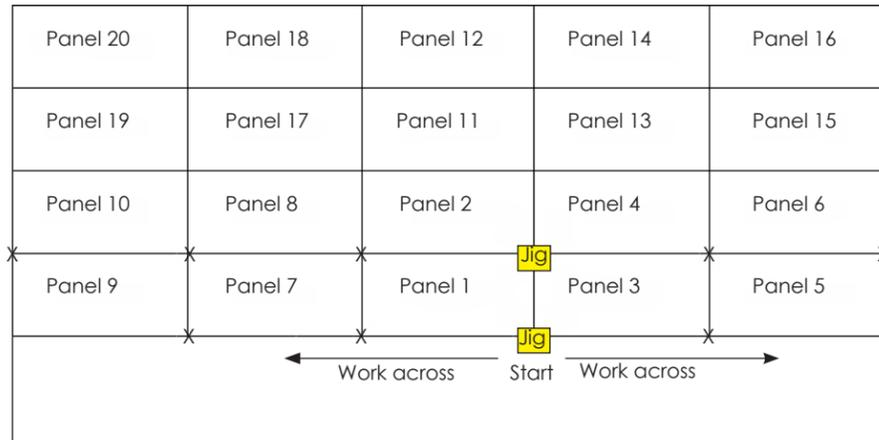

**Figure 30:** Verify Flatness
- Verify flatness by laying a 4' level across the face to ensure the combined face of both panels is straight and flat. Check both ends of the panel. Refer to **Figure 30**.